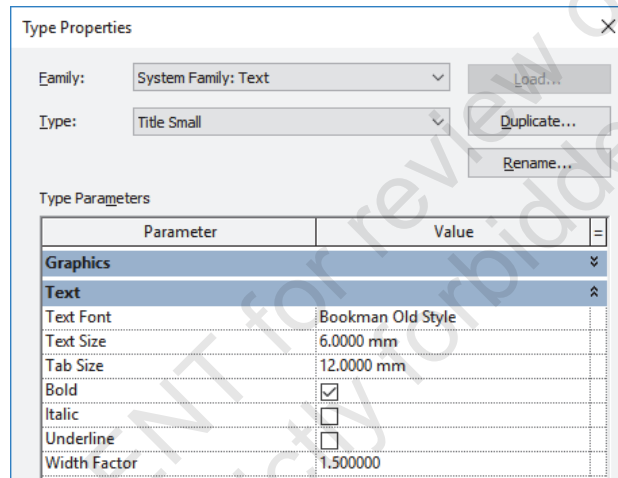

Figure 1–68
6. In the *Text* section, select a font and other options, as needed. Set the *Text Size* to **6mm**, as shown in Figure 1–68.